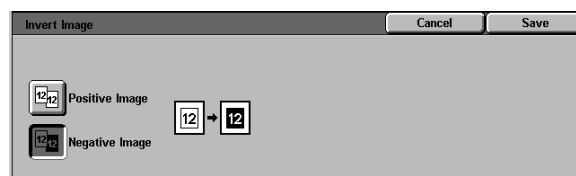

Figure 34: Negative Image screen
- 2 Touch the **Negative Image** icon to display the Negative Image screen, as illustrated in Figure 34.